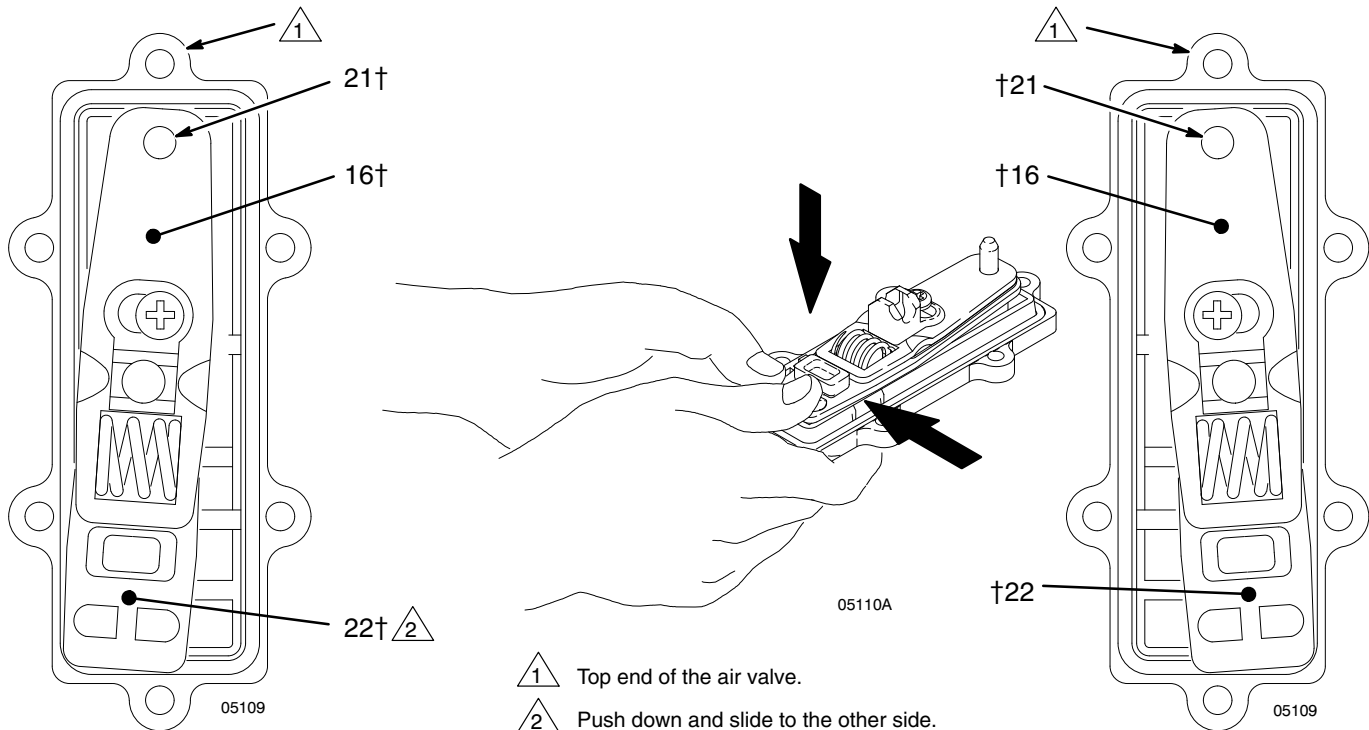

Fig. 11
13. Check if either of the two pilot pins (26) are protruding out into the air valve cavity. Push them back in as far as possible.
14. If one of the pins is still protruding, make sure the air valve is shifted **away from** that pin's side of the cavity. To shift the valve, push down on the detent link (22) and slide it to the other side with your fingers (see Fig. 11).